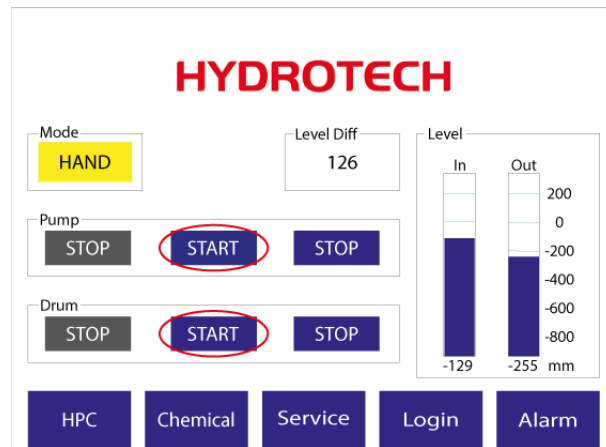
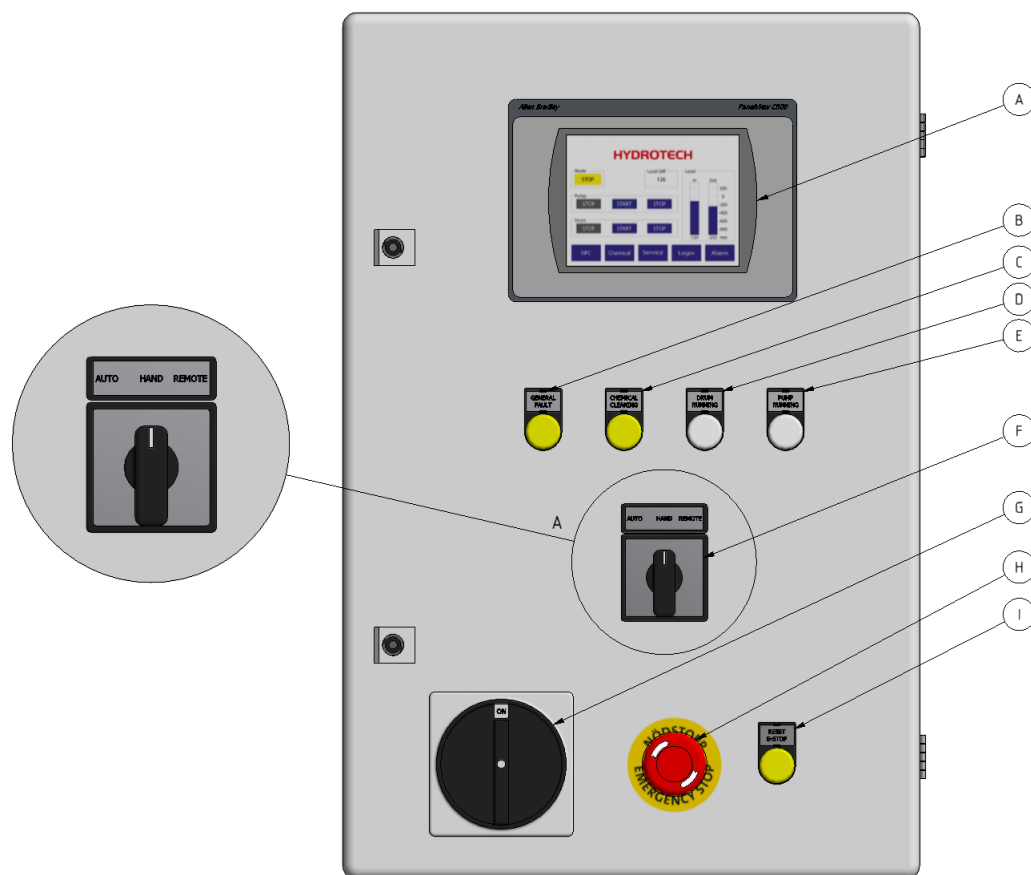

Figure 5.1 Main menu on electrical cabinet operator panel.
Figure 5.2 Front side of electrical cabinet.
2. Set the mode selector to the HAND position (see F in Figure 5.2)
3. Set the main power switch to the ON (1) position (see I in Figure 5.2)
4. Start drum rotation on the operator panel main menu (see Figure 5.1 and Figure 5.2).
6. When the water level inside the filter tank exceed the pump suction pipe (or, if a CRK or MTR pump has been installed, the pump), the pump must be started by pressing “Start” on the operator panel main menu (see Figure 5.1). NB Also read section 2.7.
Turn the mode selector to select the appropriate operating mode (see Figure 5.2, detail F).
1. Turn the mode selector shown in Figure 5.2 to the HAND position.